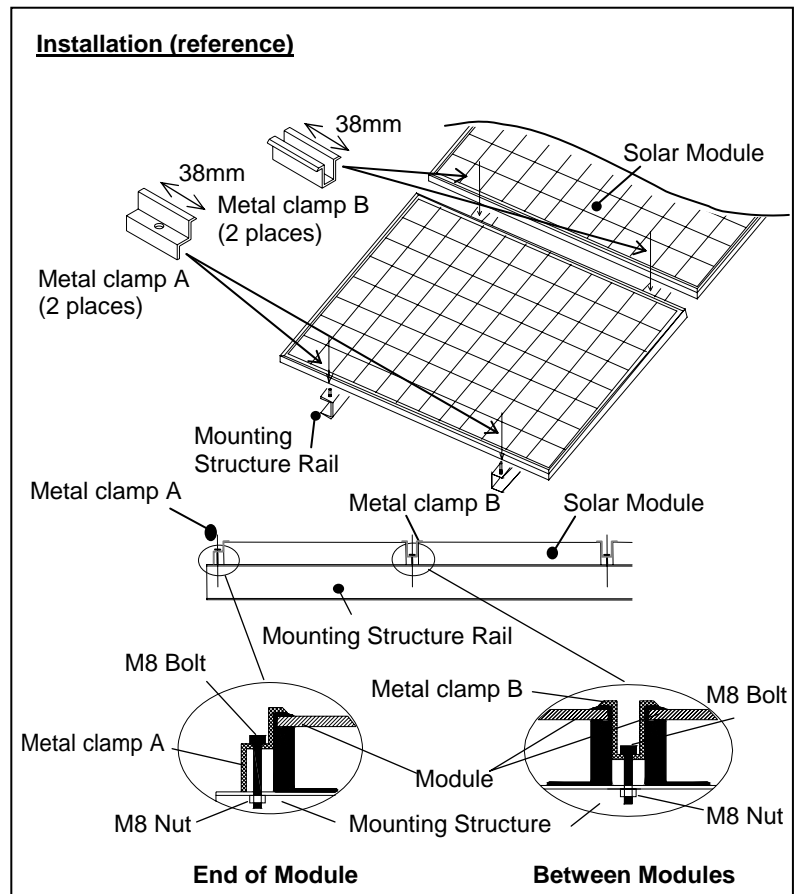

Figure 1. Installation
- Clearance between the roof surface and module frame is required to allow cooling air to circulate around the back of the module. This also allows any condensation or moisture to dissipate. Install modules with a minimum of 1 inch clearance between the roof surface and the modules so that air can circulate. SANYO recommends the installation method and mounting profile shown in Figure 1.
- Modules should be mounted at four (4) symmetrical quarter points by the means shown in Figures 1 and 2.